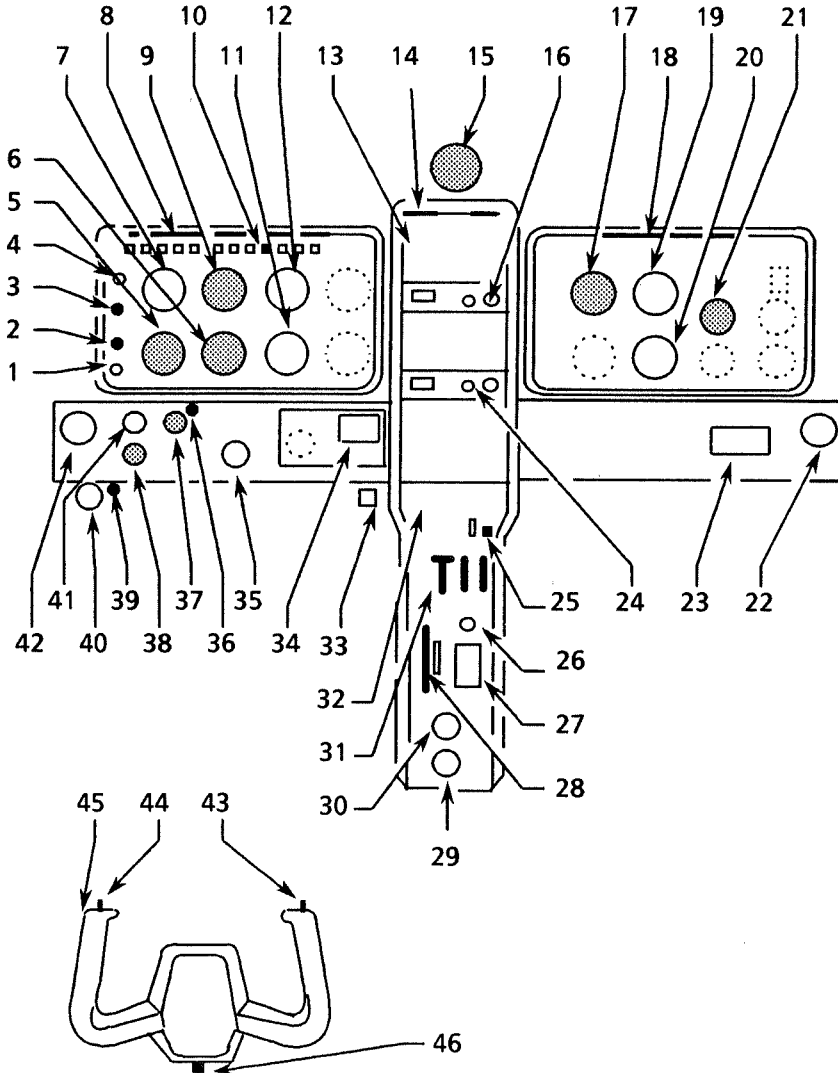

Figure 9.2.3 - EXAMPLE OF INSTRUMENT PANEL « VFR »
- See Figure 9.2.3.
- Front overhead lights controlled by turning post lights, modifiable by "Emergency" control. See Figure 9.2.3.